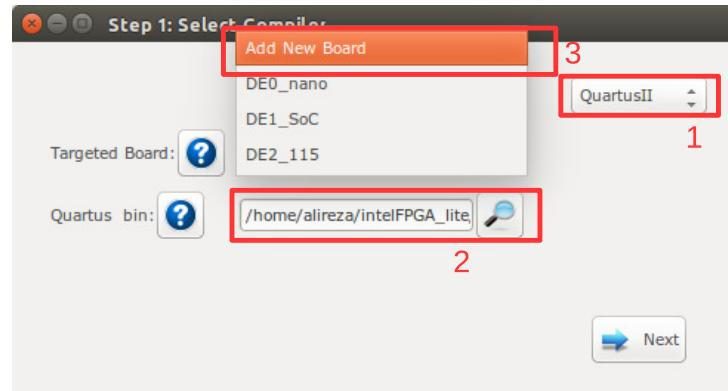

Figure 5.22: Select QuartusII as compiler.
1. Press **Compile RTL** button in right down corner. This should open "select compiler window" as shown in Figure 5.22. Select QuartusII or Vivado as the compiler tool depend on your FPGA vendor.